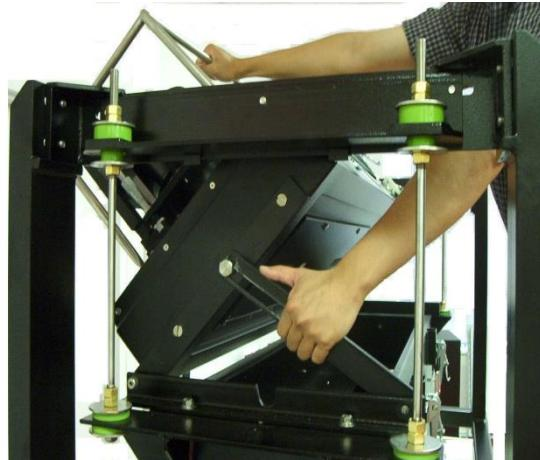

Figure 8.2 Support Arm
- 2) Release the two latches securing the scanner to the plenum chamber, then tilt the scanner back on its hinges and lock the support arm (Figure 8.2). Be sure to use the optic guard to tilt the scanner - this provides better leverage and protects the scanner components from damage.